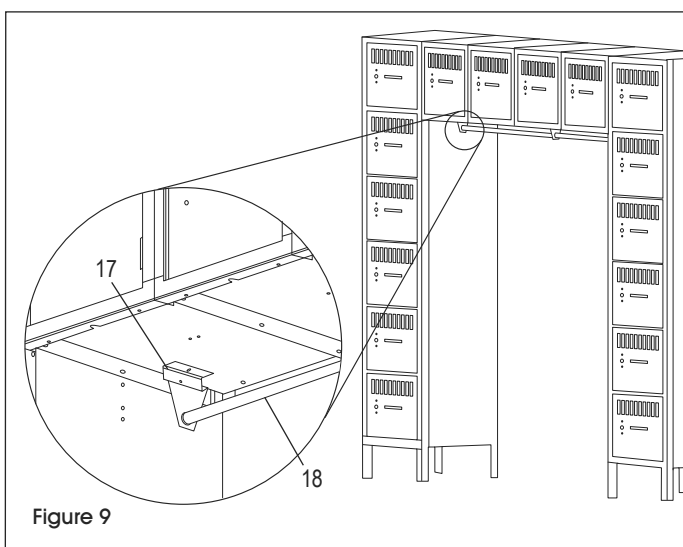

Figure 9
- Slide coat rod brackets (16) over the coat rod (17). From left to right, bolt coat rod brackets to the bottom of the horizontal frame. (See Figure 9)